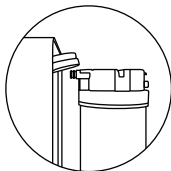

Fig. 2
2. Angle Alignment: Pick up the filter element, adjust its orientation so the top surface of the filter element is precisely aligned with the retagging surface on the main unit, and keep the two parallel, as shown in Fig. 2.
2. Open the kitchen faucet to drain away the remaining water, as shown in Fig. 2.